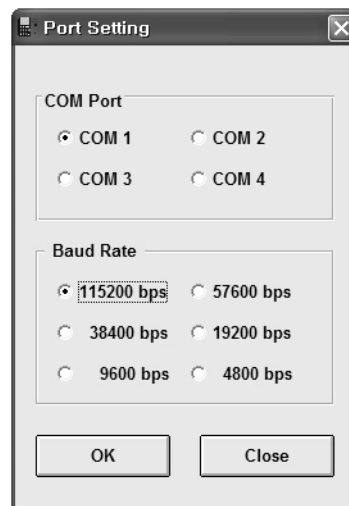

Figure 4.14. Port Setting window
- 2) Main menu set up → Select port set as figure 4.14 execute port setting window.